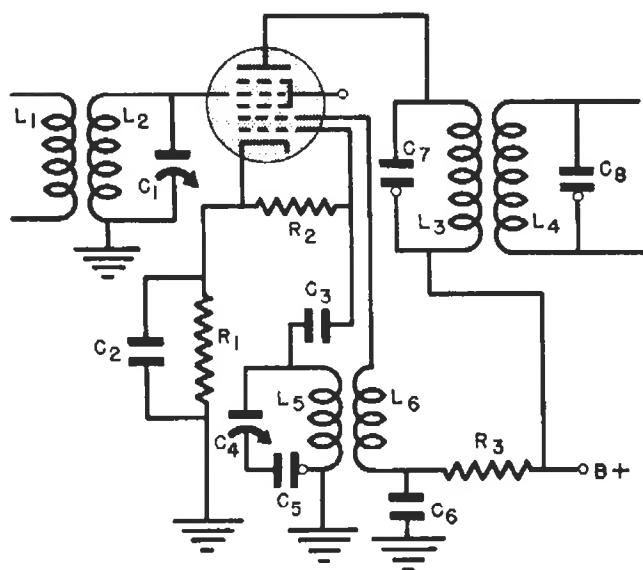

FIG. 2. The standard pentagrid converter, functioning as a mixer-oscillator.
► A typical pentagrid-converter tube circuit is shown in Fig. 2. If this circuit refuses to oscillate at the low-frequency end of the dial, the trouble may be due to high-